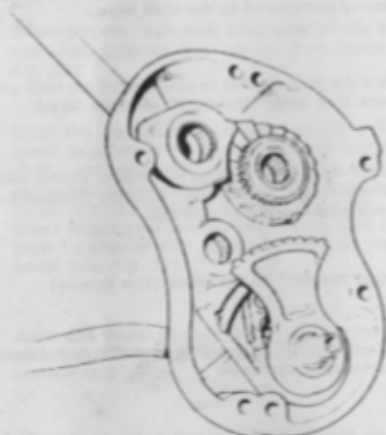

Fig. 38 Quadrant ratcheted to rearward position.
- 9 Position the quadrant inside the cover to the low gear position - do this by lifting the gearshift lever the requisite number of times to ratchet the quadrant to the rearward position. (See Fig. 38.)